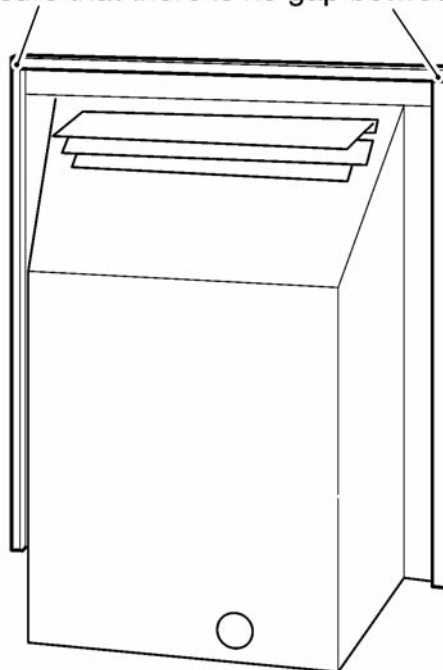

Figure 13. Fitting the foam seal
5. There is a length of self adhesive foam seal supplied with the fire. This will need to be fitted to the outer rear edges of the side and top flanges of the hotbox. Cut a 485mm length of foam seal. Be careful not to stretch the seal when measuring. Remove the protective backing from the foam seal and fit this to the rear of the top flange (See figure 13). Cut two 580mm lengths. Fit these to the rear outer edges of the side flanges. Ensure that there is no gap between the foam seals where they meet at the top flange (See figure 13)